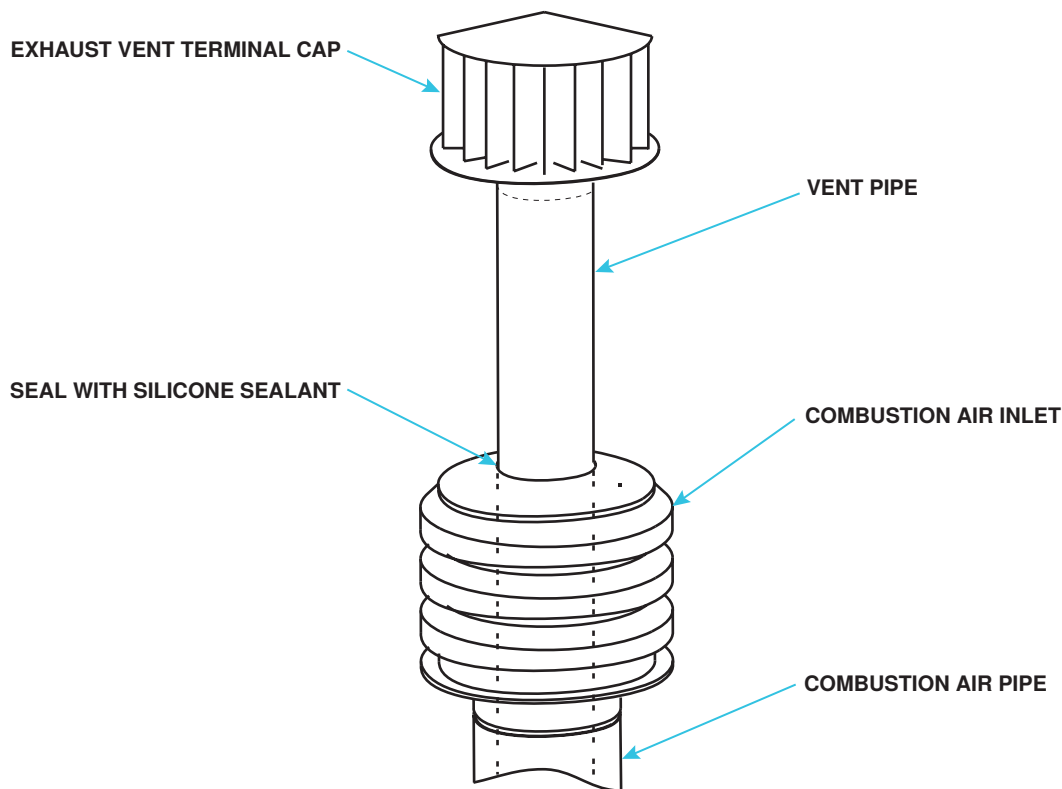

Figure 24. Combustion Air Inlet and Vent Terminal Installation
8. Install combustion air inlet (see **Figure 24**):
9. Install exhaust vent terminal (see Figure 24) in accordance with Figure 13.